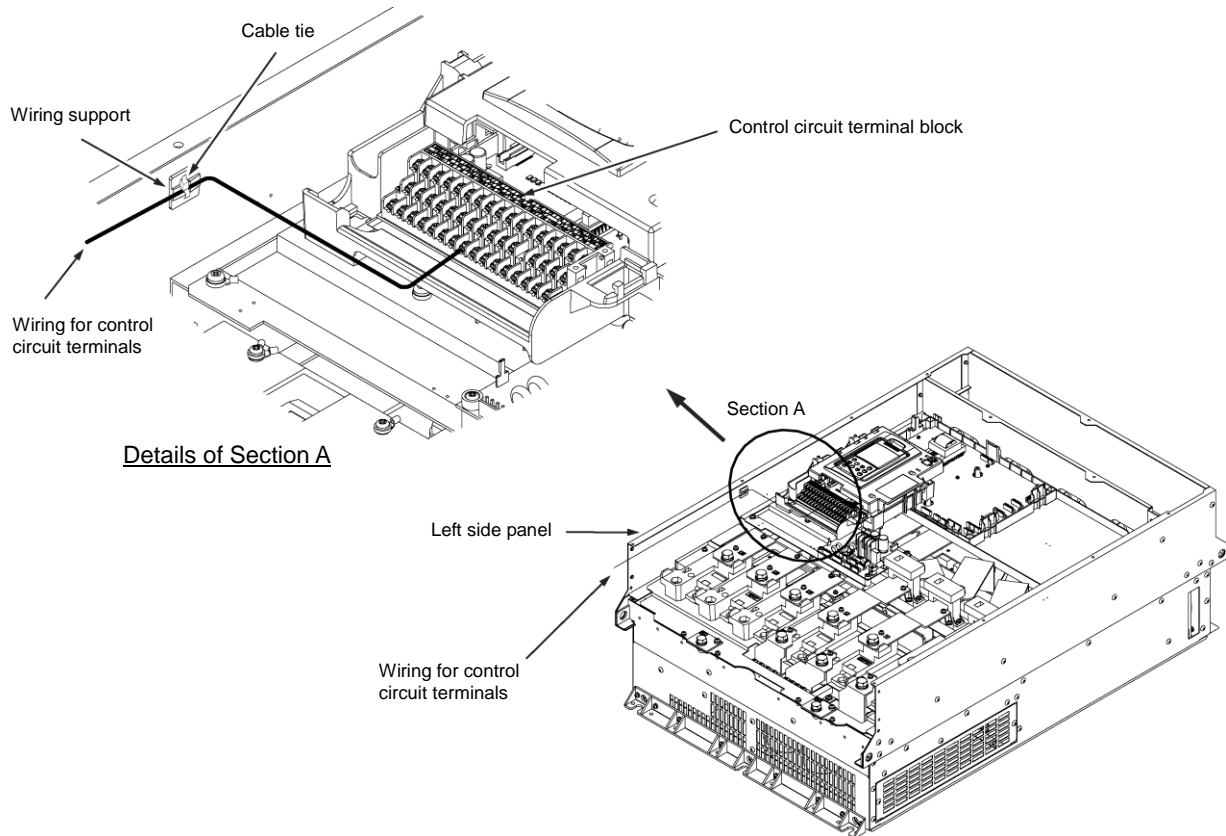

Figure 2.2-12 Wiring Route and Fixing Position for the Control Circuit Wires
- (1) As shown in Figure 2.2-12, route the control circuit wires along the left side panel to the outside of the inverter.
- (2) Secure those wires to the wiring support, using a cable tie (e.g., Insulok) with 3.8 mm or less in width and 1.5 mm or less in thickness.